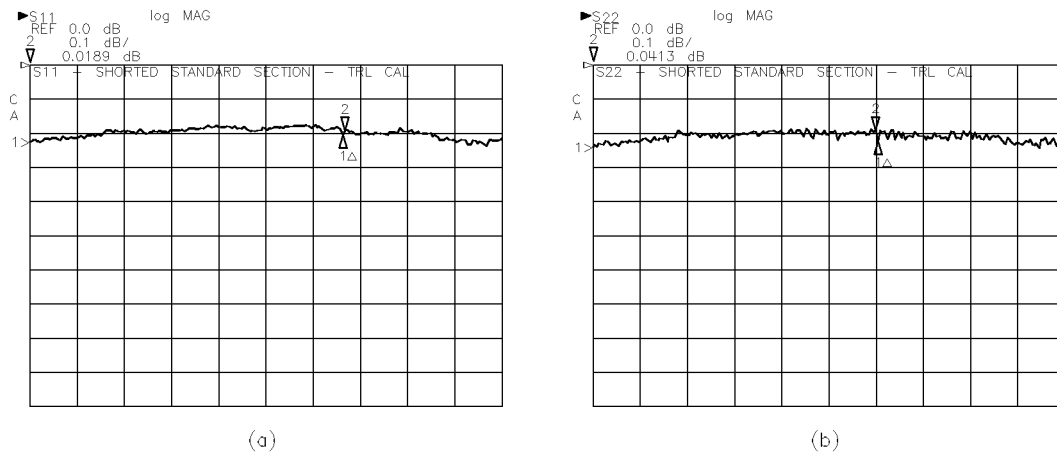

Figure 5-3. Typical S_{11} and S_{22} Standard Section Ripple
8. After one complete measurement sweep, the displayed trace should look similar to the typical trace shown in Figure 5-3.